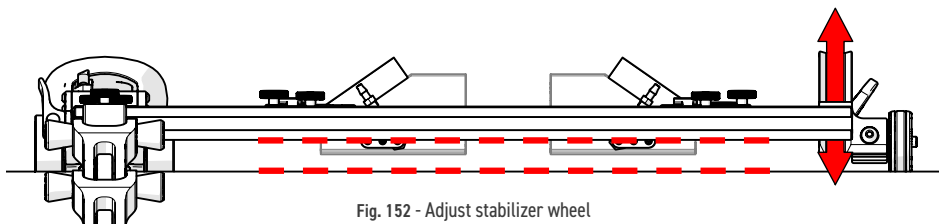

Fig. 152 - Adjust stabilizer wheel
9. Adjust the stabilizer wheel (Fig. 152) to align the frame bar parallel with the scan surface. (see *Stabilizer Wheel* on page 14).